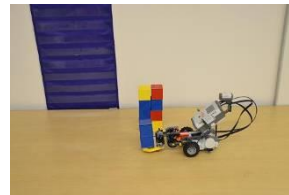

Figure 2
- Student helps build a stack of blocks. They need to stop the Robot beside a pile of blocks to allow staff or peer to load a couple blocks onto the Robot See Figure 2